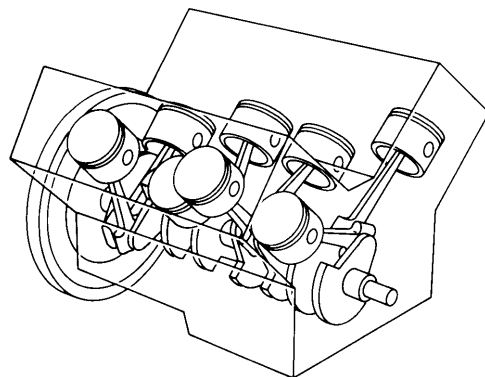

Figure 5.10 Vee engine layout
- Vee (Figure 5.10). The cylinders are in two rows at a set angle. The actual angle varies but is often 60° or 90°.